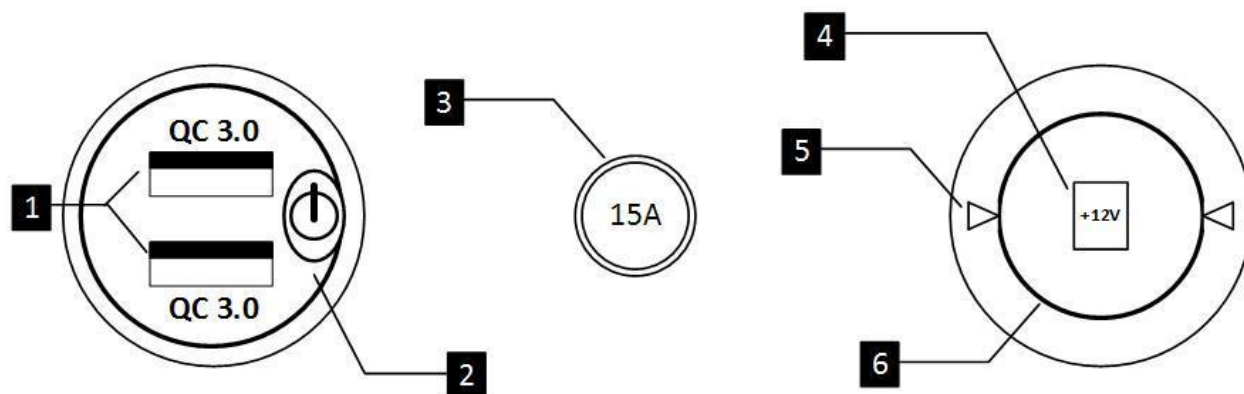
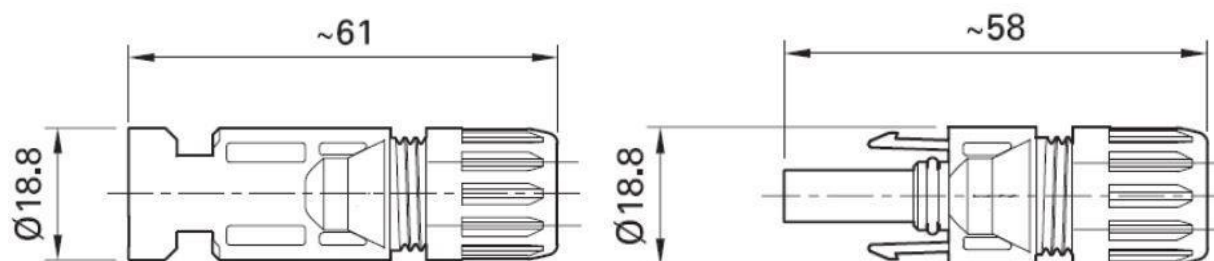

Figure 4. USB and 12Vdc accessory power panel.
Figure 6. Female and male MC4 solar cable connectors.
3. Take note of the LCD battery display. When Vulcan is charging, the display backlight will cycle between an on and off state, **Figure 4.**, and the up arrows will display in the battery capacity indicator, **Figure 4. [9]**, the estimated time to full **Figure 4. [10]** or battery empty is displayed here in hours:minutes.
Vulcan accepts power from solar panels into the **RED** and **BLACK** rear panel cables that are terminated with MC4 connectors, **Figure 6**. The connectors are keyed to plug directly into native solar panel cables without special adapters. The input power maximum is 500W. The solar panels must have a minimum open circuit voltage of 22Vdc in order to activate the charge controller.
2. Plug the solar panel cables into the MC4, **Figure 6**., connectors at the rear of the Vulcan unit. Vulcan is charging when the LCD display backlight is flashing. The Vulcan is fully charged when the battery percentage indicator, **Figure 4. [1]**, displays 100%.
Smart Stores accept power from solar panels into the **RED** and **BLACK** rear panel cables that are terminated with MC4 connectors, **Figure 6**. The connectors are keyed to plug directly into native solar panel cables without special adapters. The combined input power maximum is 500W.